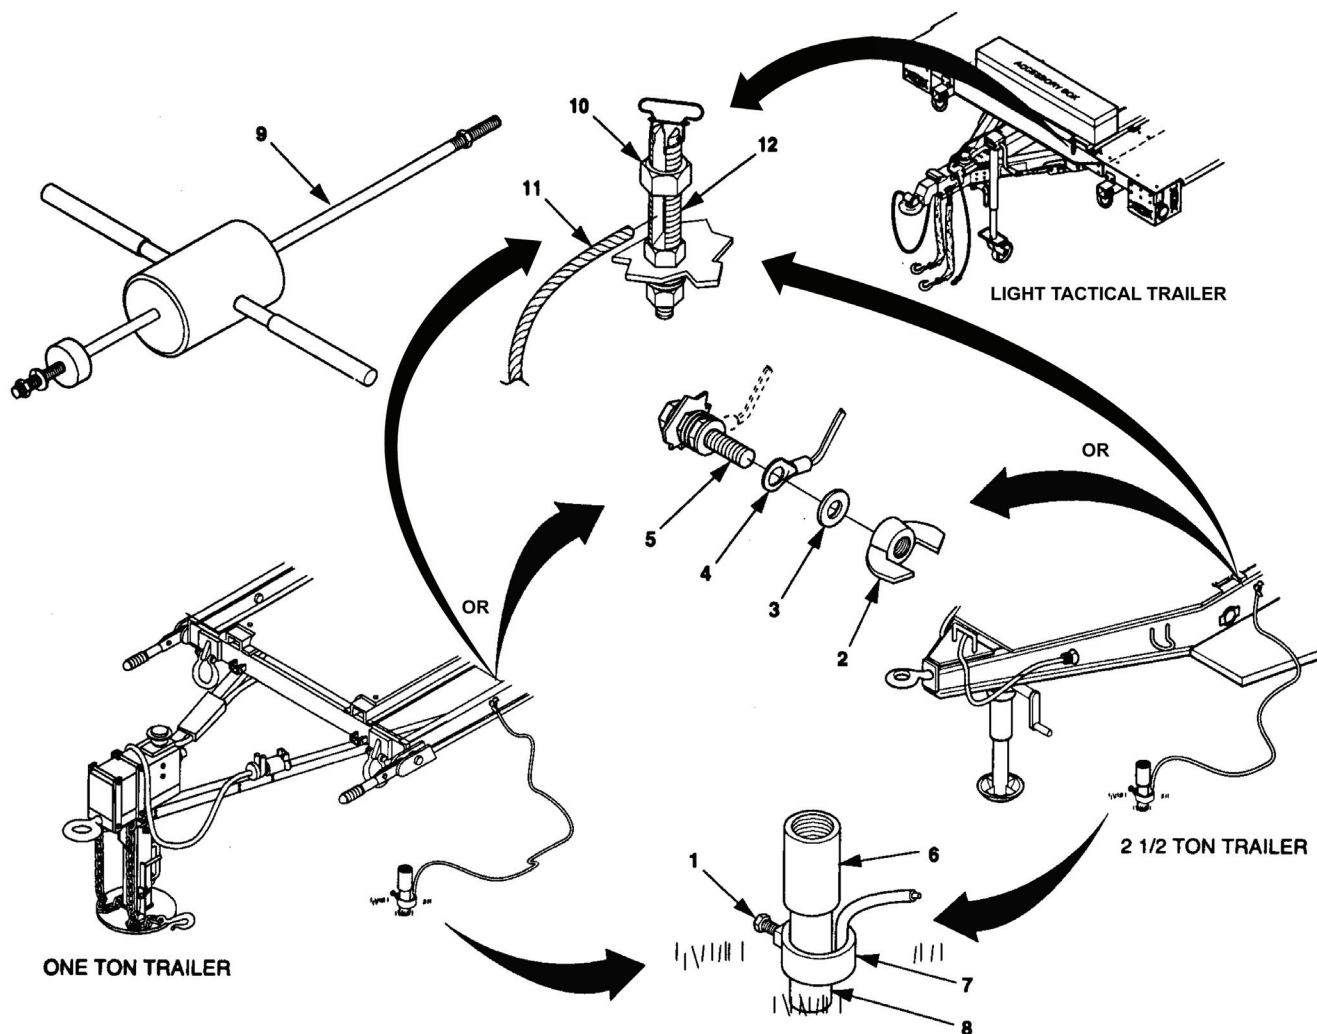

Figure 2-21. Removal of Ground Rod Assembly.
2-7.3 Removal of Ground Rod Assembly. Disconnect ground cable (11, figure 2-21) as follows:
- f. Refer to paragraph 2-3.3, step a, and figure 2-5. Assemble slide hammer (9, figure 2-21).
- g. Connect slide hammer end (9) to ground rod coupler (6).
- h. Using slide hammer (9), pull ground rod (8) out of the ground until the second coupler is exposed.
- i. Disconnect slide hammer (9) from top of ground rod coupler (6).
- l. Remove couplers (7) from each ground rod section (8).
- m. Clean ground rod sections (8) and couplers (6).
- n. Refer to paragraph 2-3.3, step i, and disassemble slide hammer (9).